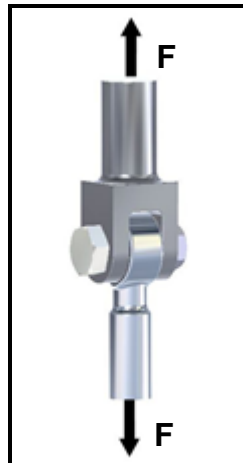

FIGURE 1.12
- D change in stress and the original stress. (1)
1.12 Refer to FIGURE 1.12 below. What type of stress, caused by force **F**, will occur in the bolt of the joint?